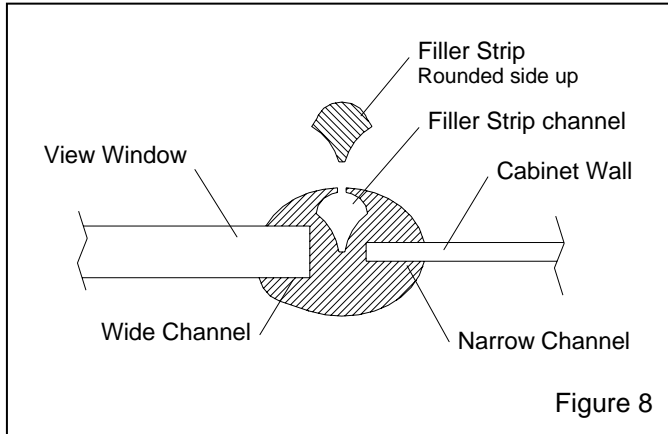

Figure 8
**6.3.5.** If the window molding needs replacing, replace it in the same order as the old; the narrow channel fits over the metal edge of the opening, as shown in Figure 8. The molding ends should meet in the middle of the top, straight section of the opening. Molding should be compressed so the ends are tightly sealed.